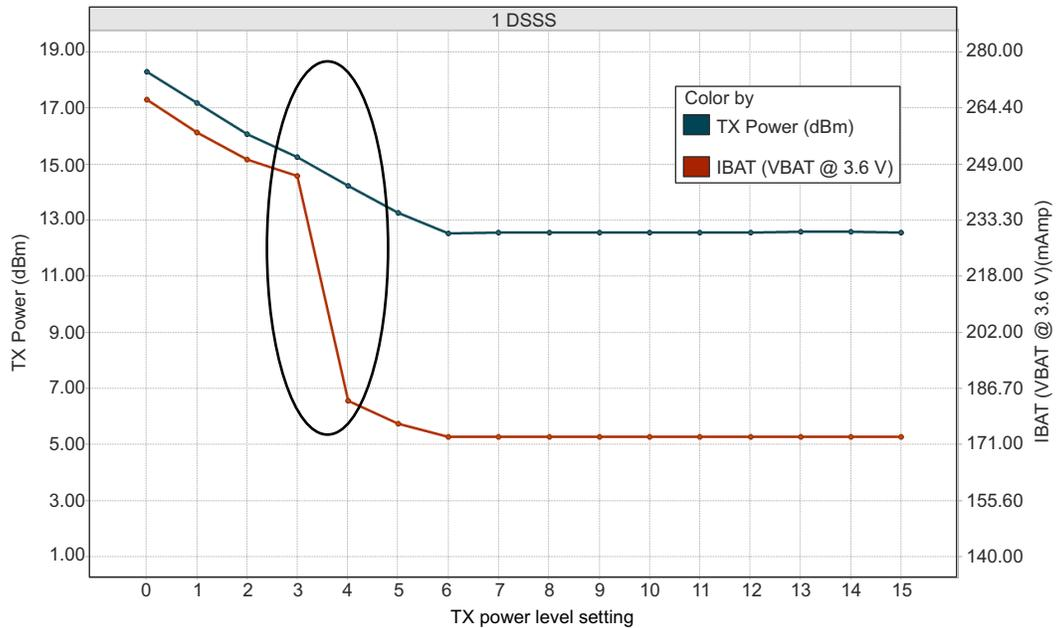
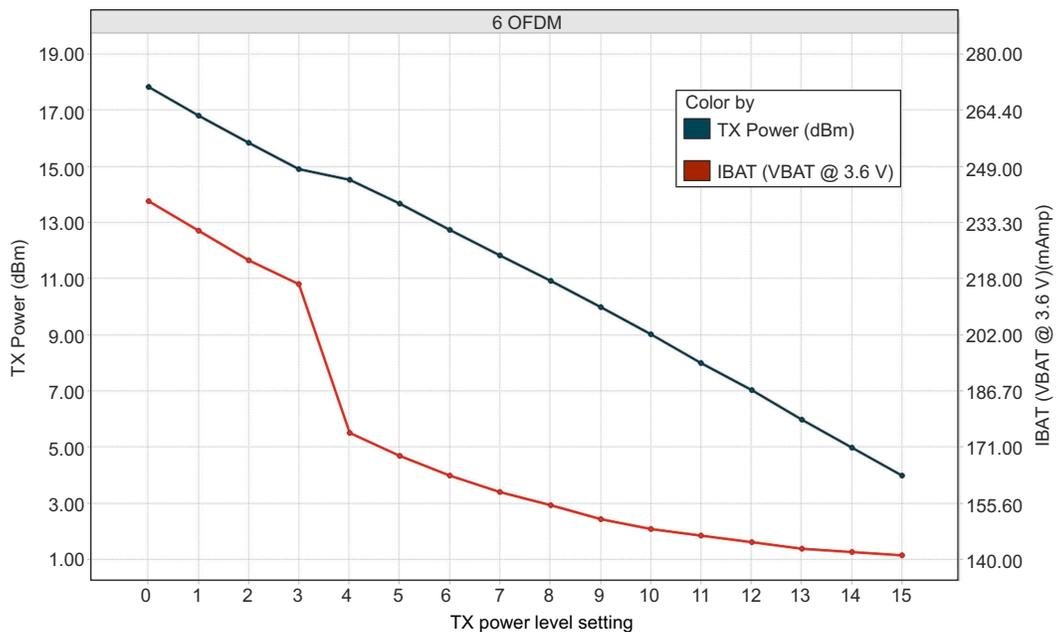
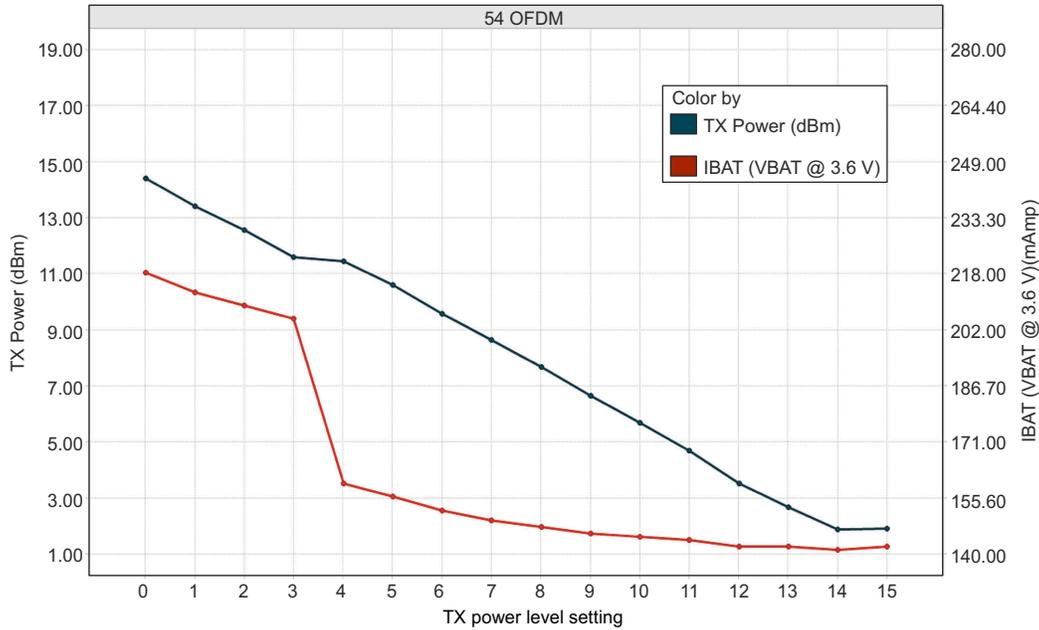

Figure 7-1. TX Power and IBAT vs TX Power Level Settings (1 DSSS)
Figure 7-2. TX Power and IBAT vs TX Power Level Settings (6 OFDM)
Figure 7-3. TX Power and IBAT vs TX Power Level Settings (54 OFDM)
- (1) TX power level = 0 implies maximum power (see Figure 7-1, Figure 7-2, and Figure 7-3). TX power level = 4 implies output power backed off approximately 4 dB.
- (2) The CC3235x system is a constant power-source system. The active current numbers scale based on the V_{BAT} voltage supplied.
- (3) Typical numbers assume a VSWR of 1.5:1.
- (4) DTIM = 1
- (5) LPDS current does not include the external serial flash. The LPDS number of reported is with retention of 256KB of MCU SRAM. The CC3235x device can be configured to retain 0KB, 64KB, 128KB, 192KB, or 256KB of SRAM in LPDS. Each 64-KB block of MCU retained SRAM increases LPDS current by 4 µA.
- (6) The complete calibration can take up to 17 mJ of energy from the battery over a period of 24 ms. Calibration is performed sparingly, typically when coming out of HIBERNATE and only if temperature has changed by more than 20°C. The calibration event can be controlled by a configuration file in the serial flash.
Figure 7-1, Figure 7-2, and Figure 7-3 show TX power and IBAT versus TX power level settings for the CC3235S device at modulations of 1 DSSS, 6 OFDM, and 54 OFDM, respectively. For the CC3235SF device, the IBAT
In Figure 7-1, the area enclosed in the circle represents a significant reduction in current during transition from TX power level 3 to level 4. In the case of lower range requirements (14-dBm output power), TI recommends using TX power level 4 to reduce the current.